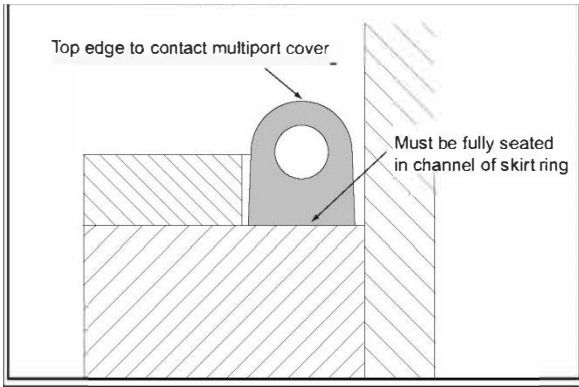

Figure 5: D-Ring Gasket Cross Section
- a. D-ring gasket is free of dirt and debris, the round edge is facing up, and it is fully seated in the skirt channel Figure 5